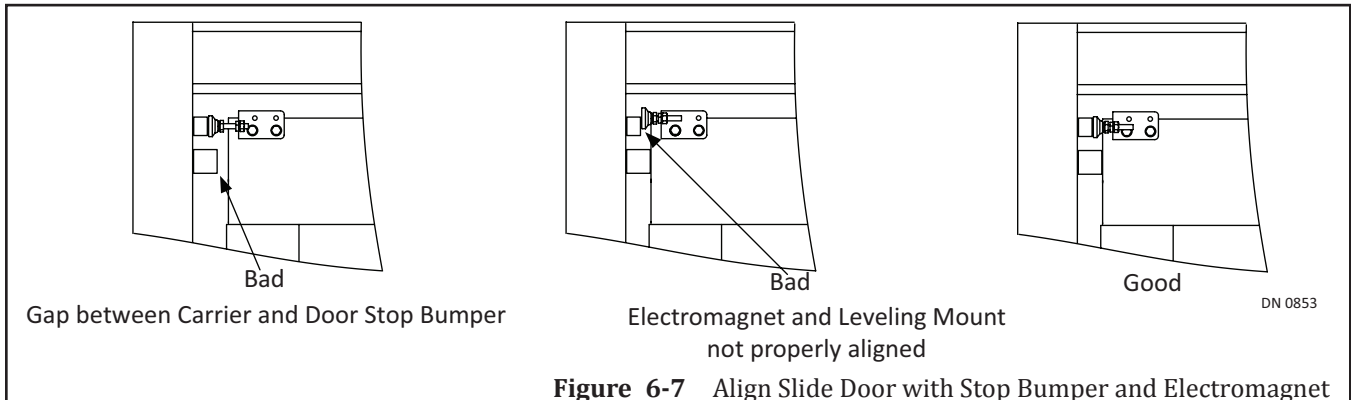

Figure 6-7 Align Slide Door with Stop Bumper and Electromagnet
1. Manually slide door to full open position. Please see Figure 6-7.